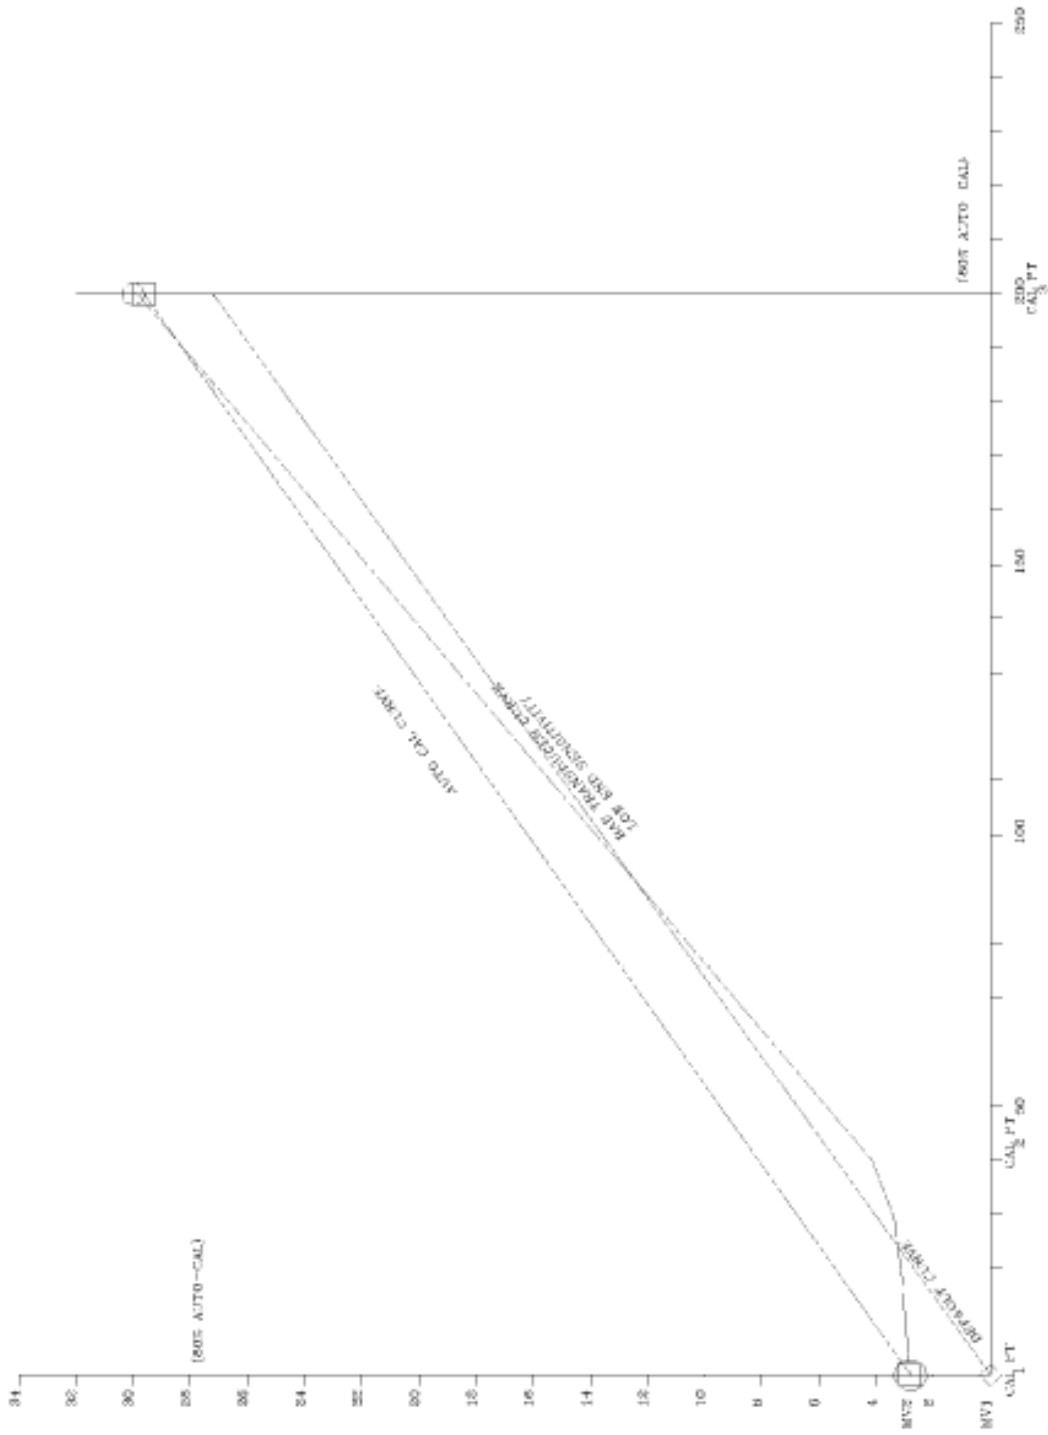

FIGURE 19 - Transducer Curves
Each transducer is calibrated individually. In the software, there are three transducer curves. These are (1) default, (2) auto-cal, and (3) manual-cal. These curves are shown in Figure 19. The “default” curve passes through 0 PSI/0 mV and the theoretical 100% of pressure and millivolts. This curve is used after a Factory default setting. The simplified equation is shown below: